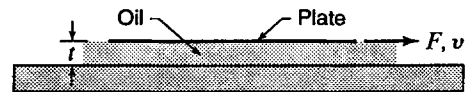

Figure X2.11.4
2.11.5 Refer to Fig. X2.11.4. A flat plate 2 ft × 3 ft slides on oil ( $\mu = 0.024 \text{ lb}\cdot\text{sec}/\text{ft}^2$ ) over a large plane surface. What force  $F$  is required to drag the plate at a velocity  $v$  of 4 fps, if the thickness  $t$  of the separating oil film is 0.025 in?